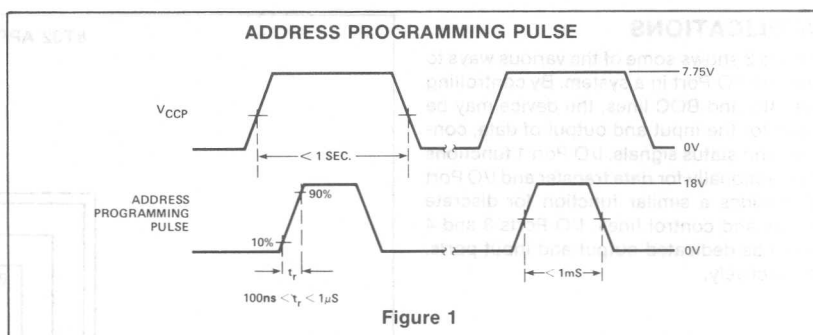

Figure 1
3. After V_{CC} has stabilized, apply a single programming pulse to the user data bus bit where a low-level match is desired. The voltage should be limited to 18V; the current should be limited to 75mA. Apply the pulse as shown in Figure 1.
The 8T39 Bus Expander is designed to be used with the 8X300 microprocessor to allow increased I/O capability in those systems previously limited by fanout considerations. Figure 1 shows a typical arrangement of the bus expander in an 8X300 system. Each expander services I/O ports whose address is within the range of the expander. Other I/O ports or working storage may be directly connected to the bus as shown.